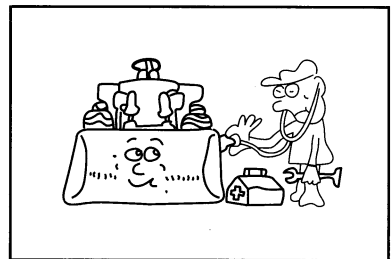

Figure1-67
- Repair the breakdown at once if the breakdown occur, and listen the abnormal sound to distinguish the reasons of breakdown. Don't repair the part that is in working. (Figure 1-67)